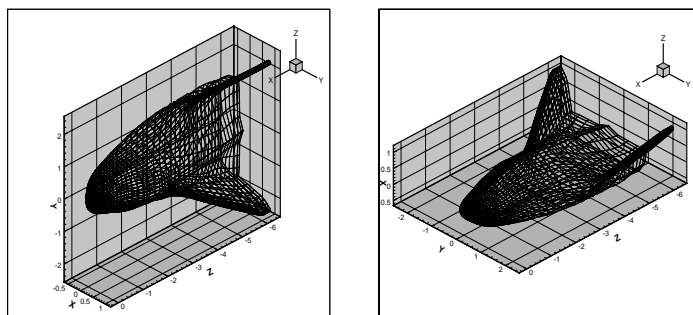

Figure 9-4. A 3-D field plot (left). The same plot after interchanging X and Y (right).
Creating a 3-D field plot from a 2-D plot is usually as simple as clicking on the button labeled 3D on the sidebar. For example, suppose you read in the file **spcship.plt** from the **demo/plt** directory, an IJ-ordered data set which by default is displayed in 2-D. Clicking on the 3D button yields the 3-D surface mesh plot shown at the left in Figure 9-4. The spaceship appears on its side by default; you can change this either by rotating the plot around the X-axis or by interchanging the axis assignments of the X- and Y-variables.
3. Redraw the plot to obtain the view displayed at the right of Figure 9-4.